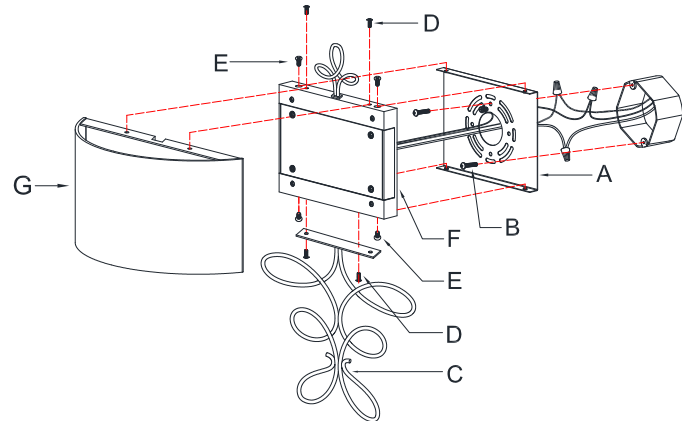

Fig. 2
CONNECTING THE WIRES (FIG. 2)
5. Connect the electrical wires as shown in Fig. 2, making sure that all wire connectors are secured. If your junction box has a ground wire (green or bare copper), connect the fixtures ground wire to it. Otherwise, connect the fixture ground wire directly to the mounting plate (A) using the green screw provided. After wires are connected, tuck them carefully inside the junction box.